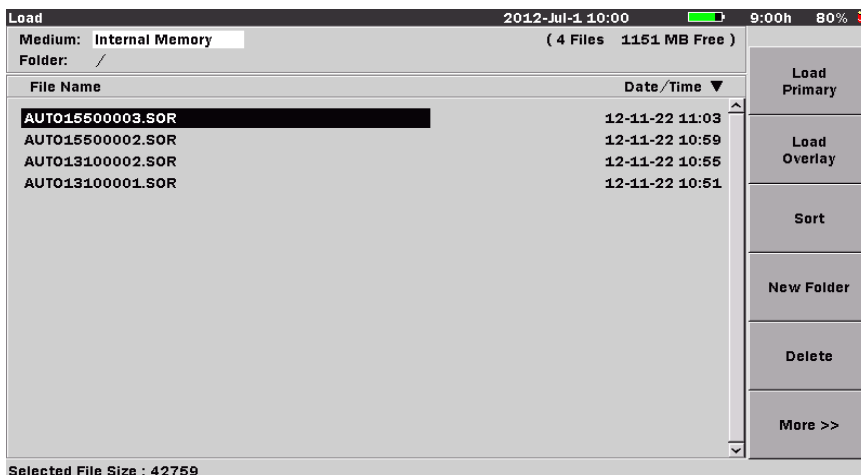

Figure 4-37: Load Screen
1. Press the **File** key, the Load screen appears (see Figure 4-37 on page 4-91).
Use either the Save screen (see Figure 4-41 on page 4-101) or the Load screen (see Figure 4-37 on page 4-91) to delete any data files stored in the internal memory or on a USB memory stick. You can delete a single file, multiple files or all of the files in the current directory.
1. Press the **Save** key, or the **File** key, if not already displaying either the Load screen (see Figure 4-37 on page 4-91) or the Save screen (see Figure 4-41 on page 4-101).
1. Press the **Save** key, or the **File** key, if not already displaying either the Save screen (see Figure 4-41 on page 4-101) or the Load screen (see Figure 4-37 on page 4-91).
Use either the Save screen (see Figure 4-41 on page 4-101) or the Load screen (see Figure 4-37 on page 4-91) to copy data files stored in the internal memory or on a USB memory stick. You can copy a single file, multiple files or all of the files in the current directory.